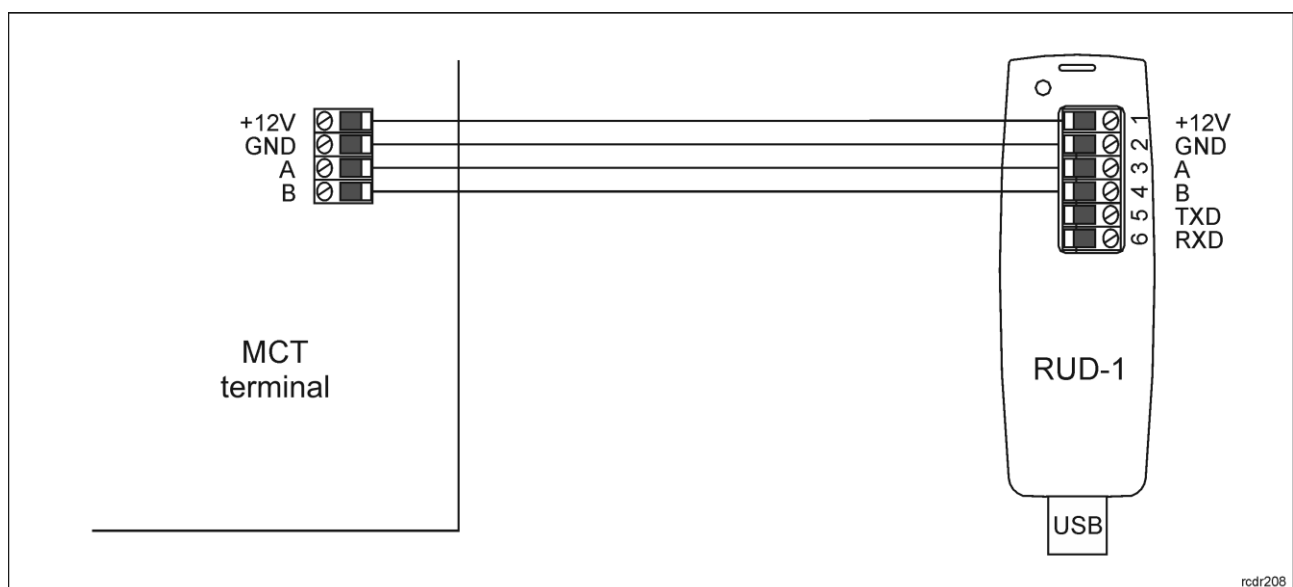

Fig. 8 Connection to RUD-1 interface (low level configuration)
1. Connect the device to RUD-1 interface (fig. 8) and connect the RUD-1 to computer's USB port.
1. Connect the reader to RUD-1 interface (fig. 8) and connect the RUD-1 to computer's USB port.